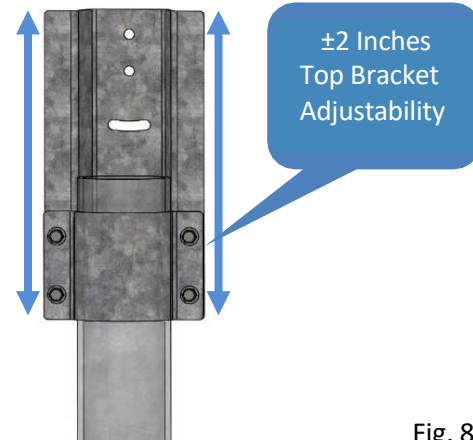

Fig. 8-1
- Top Bracket Up – Down:  $\pm 2.0$  inches ( $\pm 50$  mm) (Fig. 8-1)